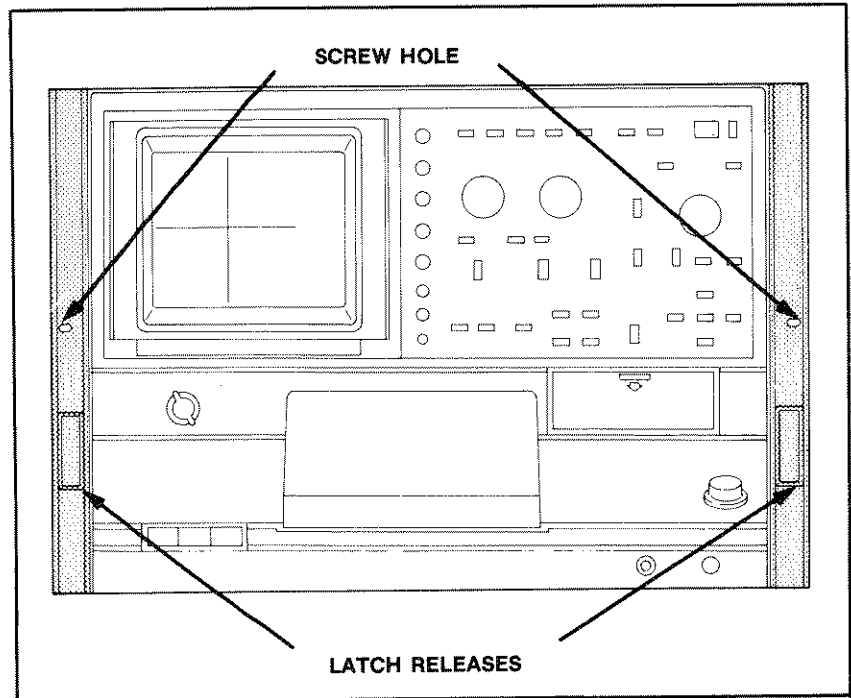

Figure 1-1. Location of the Rackmount Latch Release.
**Latching.** The 370 incorporates a spring-latch design built into the rackmounting ear. To release, pull the rackmount latch release (see Fig. 1-1). To relatch, push the rackmount latch release until the spring latches engage.
For those applications that require additional rackmounting security, the rackmounting ears of the 370 are drilled for screw fasteners (see Fig. 1-1).
6. Extend the instrument out of the rack by pulling the rackmount latch releases on the front panel (see Fig. 1-1) out to disengage the spring latches. Then, pull the instrument out.